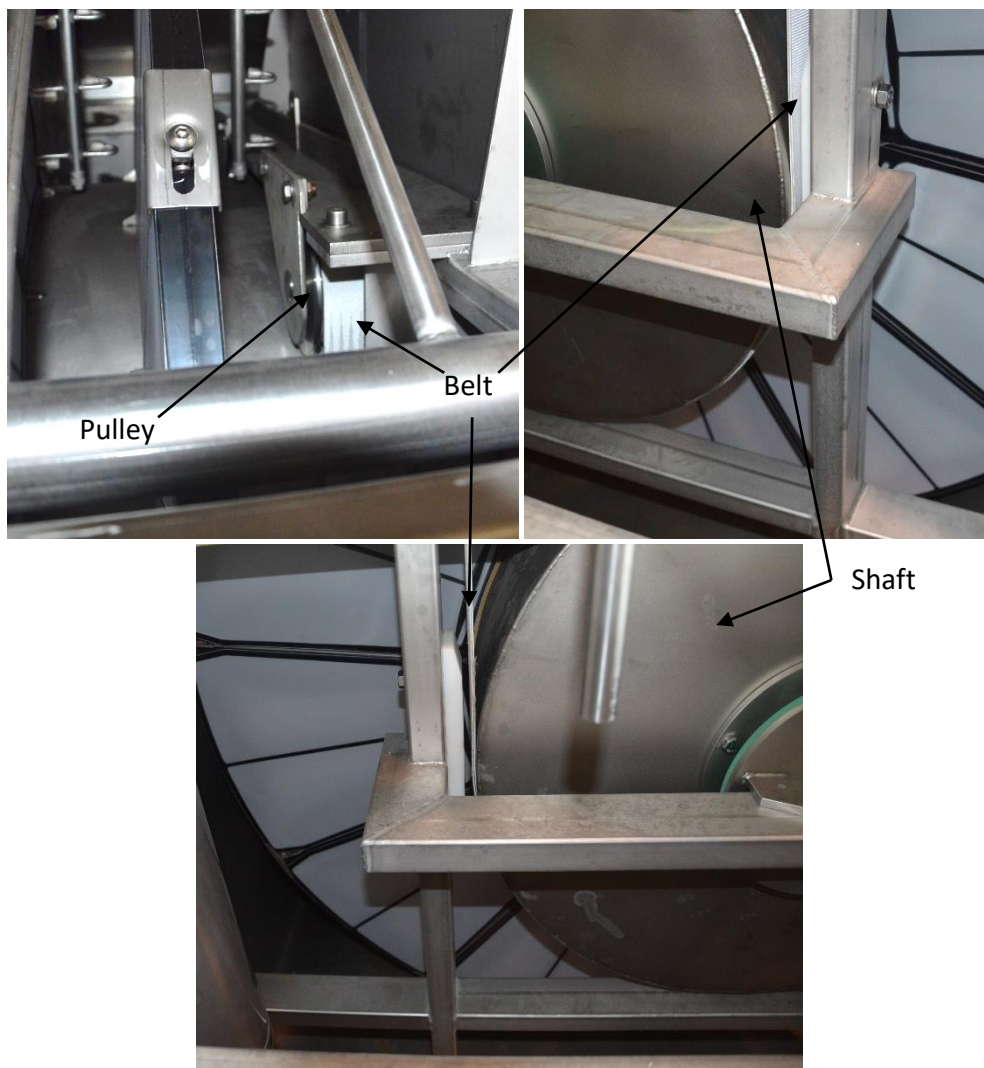

Fig. 51 Shaft mounting
- Do a visual check of pulleys of shaft mounting for any wear or mechanical damage of shaft bearings (Fig. 51).